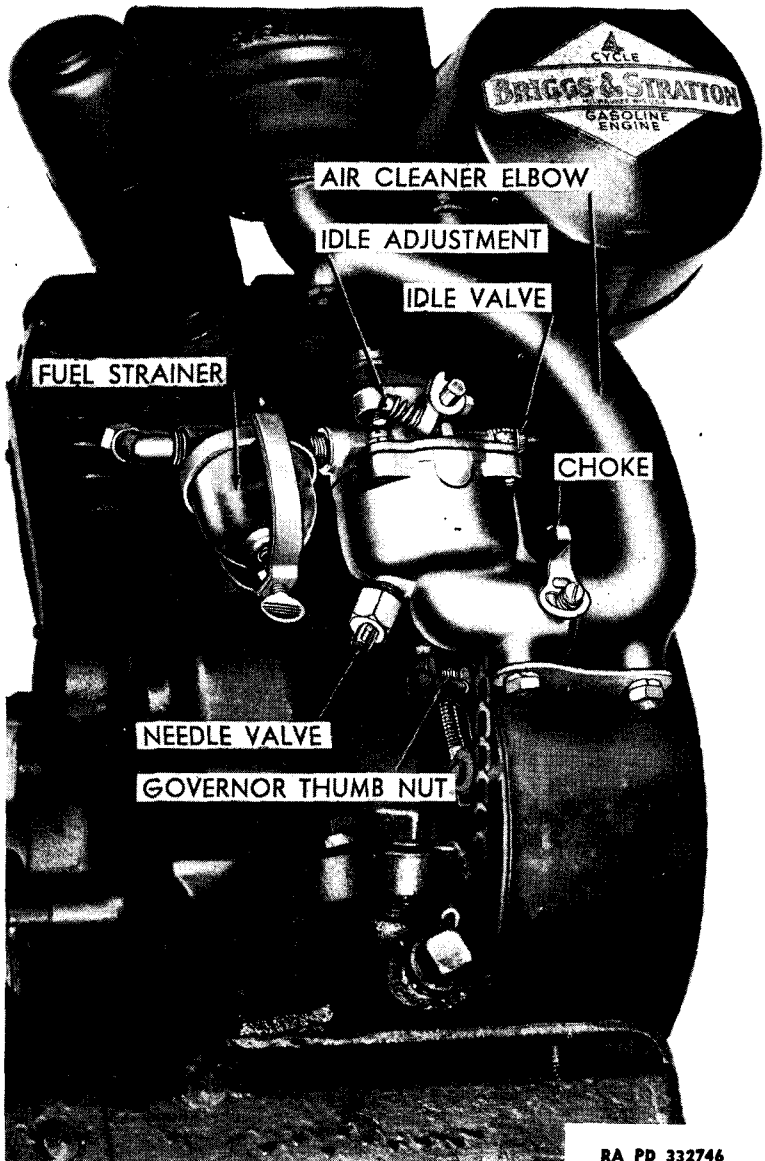

Figure 64—View of Carburetor and Governor on Engine
(9) **READJUST CARBURETOR.** Repeat step (7) above if necessary.
b. Carburetor and Governor Adjustment on Engine (fig. 64).
(1) Turn needle valve to right (clockwise) as far as possible. Do not use force or screw up too tightly as this may damage needle valve. Open needle valve from 1 to 1¼ turns to the left (counterclockwise).
(2) Start engine, and when it has warmed up, adjust needle to the point at which engine operates best with full load.
(3) Holding throttle lever adjustment screw tightly against stop to keep engine at idling speed, turn idle adjusting screw right, or left, to point where engine idles most smoothly. The proper setting is from ½ to ¾ open. Do not force idle adjusting screw against seat.
(4) Turn throttle adjusting screw to the right (clockwise) to increase idling speed. **NOTE:** *Correct idling speed is approximately 1,600 revolutions per minute.*